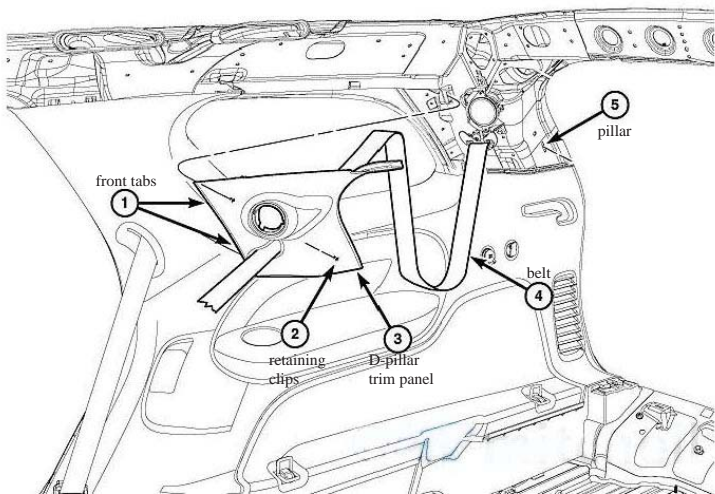

Figure 4
E. Remove D-pillar trim panel (Fig 4)